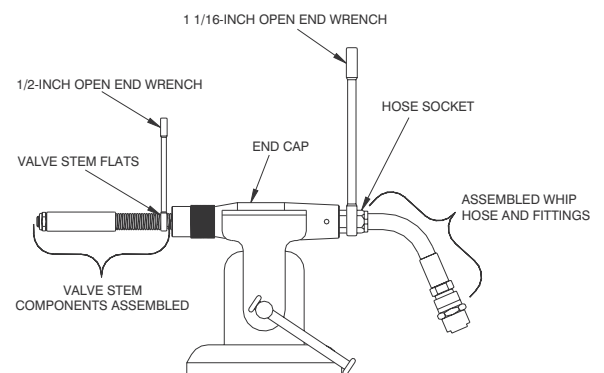

Figure 11-17. Thread the Hose Socket from the Valve Stem.
2. Push the Valve (7) toward the End Cap (16) until the flats of the Hose Socket (17) project from the Whip Hose end of the End Cap. Refer to Figure 11-17.